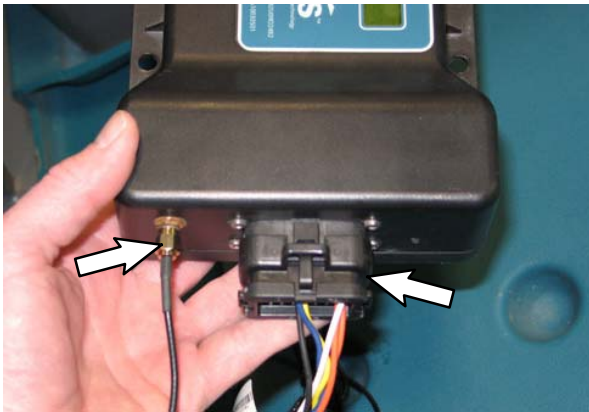

FIG. 7
6. Connect the antenna (7) cable and telemetry harness (4) to the telemetry module (1). (Fig. 7)